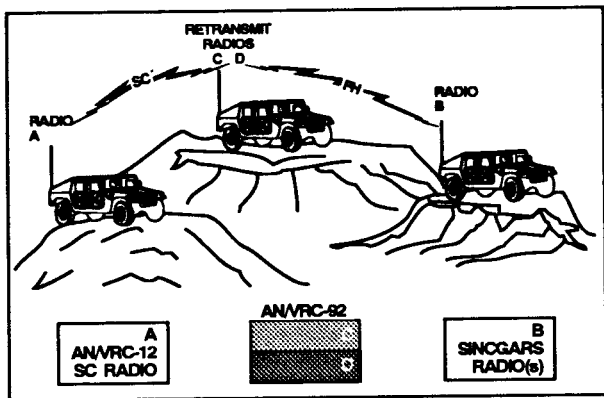

Figure 4-4. SC to FH retransmission operation.
SINGGARS radios may "net" with the AN/VRC-12 series radios by operating in the single-channel mode. Additionally, the AN/VRC-12 series radios may operate within FH nets by using a SINGGARS-FH to single-channel (SC) retransmission system provided by an AN/VRC-92. Figure 4-4 shows an example of an SC to FH retransmission operation.